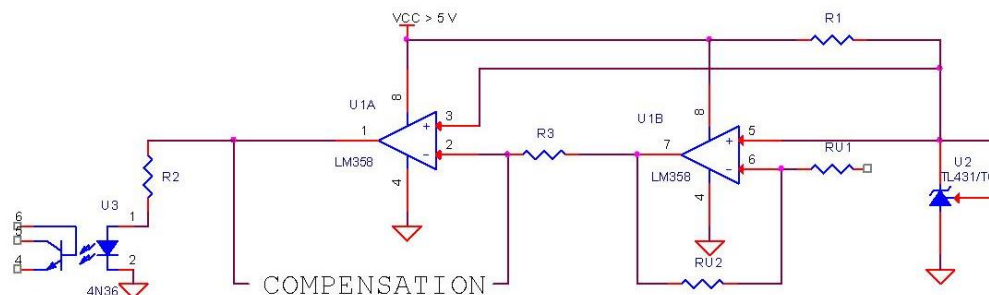

FIGURE 3
2) The feedback op-amp and connected opto-LED should be given power from much higher than 5V (Figure 3) or other intelligent methods should be used so that it could occupy and thus sweep full range of resistor limited current from this opto-LED. This will produce more shades of opto-LED light intensity instead of just on and off. This will prevent cycle skipping command.